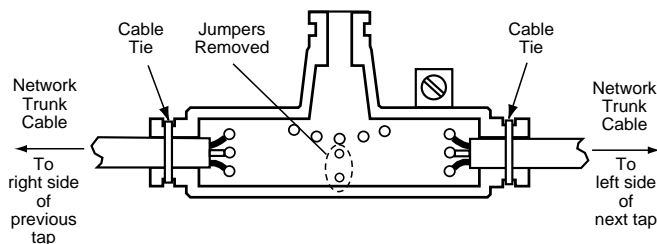

Figure 18: Taps at In-Line Sites
sites on the cable section must be removed (open). See Figure 18 on page 27.
At each in-line tap site, install two lengths of trunk cable. Connect the cable from the right side of the previous tap to the left side of this tap. Connect the cable from the left side of the next tap to the right side of this tap. Remove the two internal jumpers. Figure 18 shows the connections for taps at in-line sites.
- The tap at each in-line drop site has its two internal terminal jumpers disconnected and removed, as shown in Figure 18 on page 27.